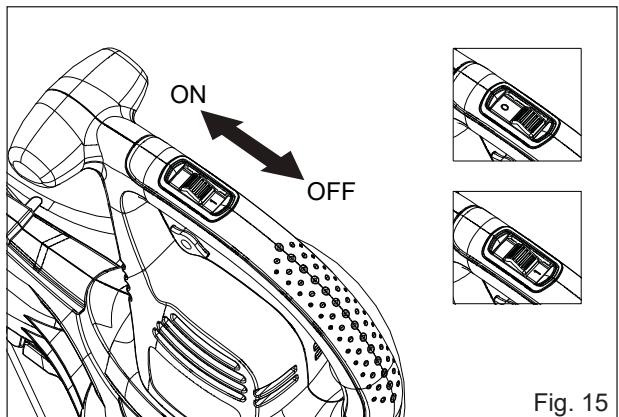

Fig. 15
1. To start the electric blower/vacuum/mulcher, slide the ON/OFF switch to position (1). This unit is equipped with one speed setting (1) (Fig. 15).
2. To stop the unit, slide the ON/OFF switch to position (0) (Fig. 15).